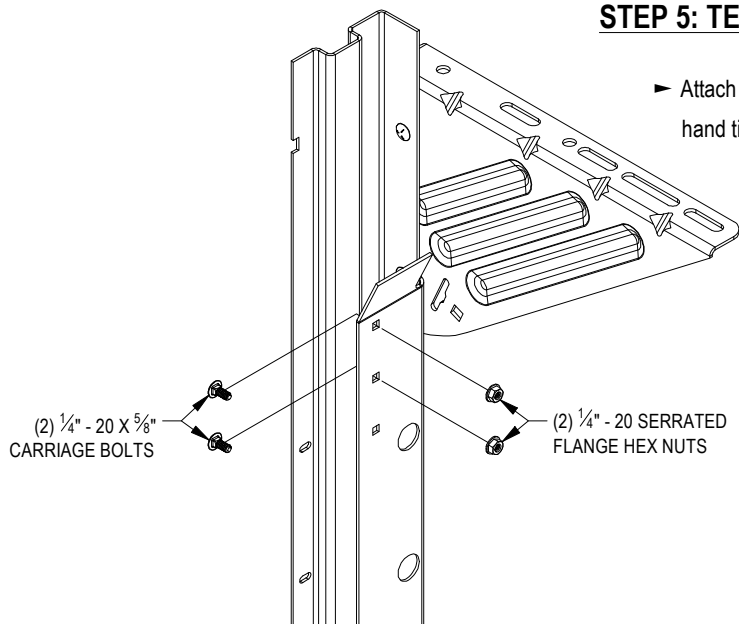

FIGURE 11:
- Attach two (2) $\frac{1}{4}$ " - 20 X $\frac{5}{8}$ " Carriage Bolts and $\frac{1}{4}$ " - 20 Serrated Flange Hex Nuts per guide and hand tighten $\frac{1}{4}$ " - 20 Serrated Flange Hex Nuts when in place. **See Figure 11.**